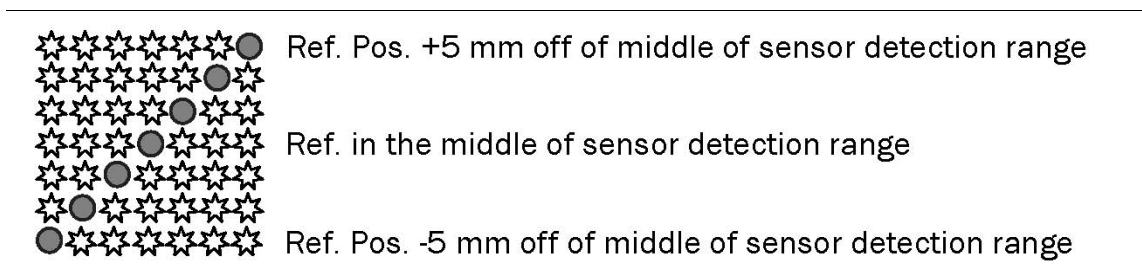

Fig 10: LED indication of Reference Position values (left sensor)
- For left sensor operation the  key causes the web moving inside the sensor. The  key causes the web moving outside the sensor. Using right sensor operation or center guiding the setting behaves contrariwise (refer also to **Fig. 10, 11 and 12**)